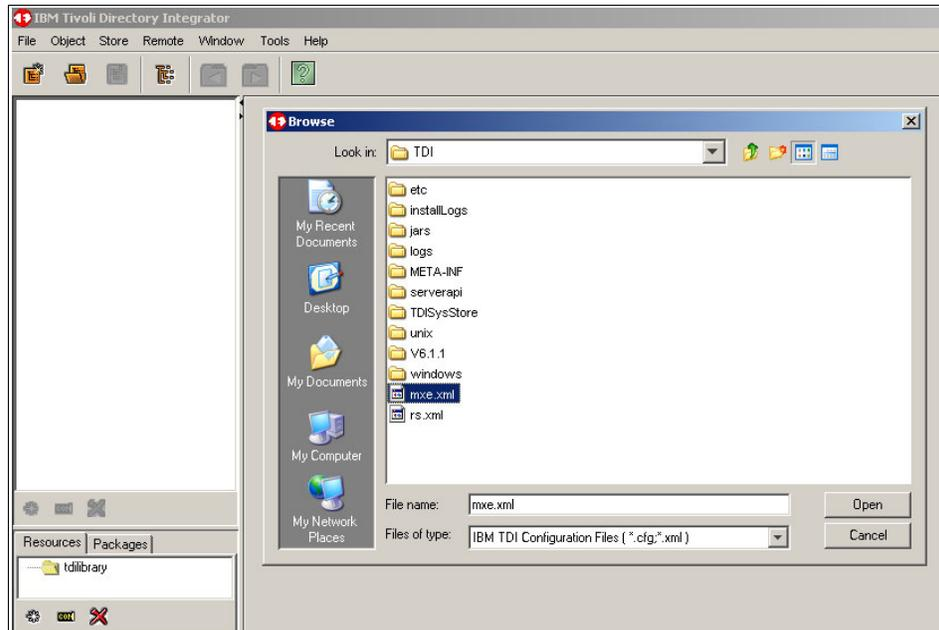

Figure 4-5 Opening of the integration scenarios, known as an AssemblyLine
- b. Open the **mxe.xml** (the configuration file for the scenarios). Refer to Figure 4-5 on page 157.